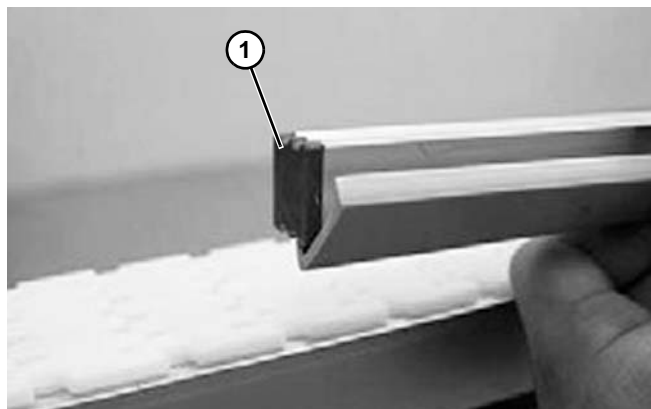

Figure 101
1. To prevent products from being scratched, a plastic guide rail cover (**Figure 101, item 1**) can be snapped on to the inside of the guide rail.